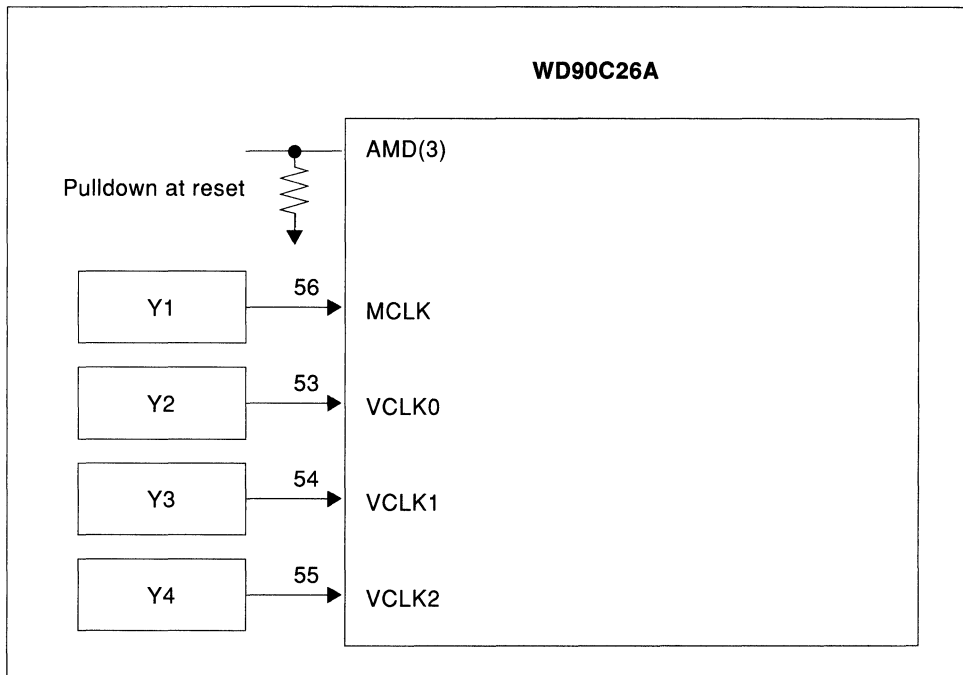

FIGURE 6-17 USING A WD90C26A WITH SEPARATE EXTERNAL CLOCK SOURCES
- Using a WD90C26A with an Separate External Clock Sources (see Figure 6-17).